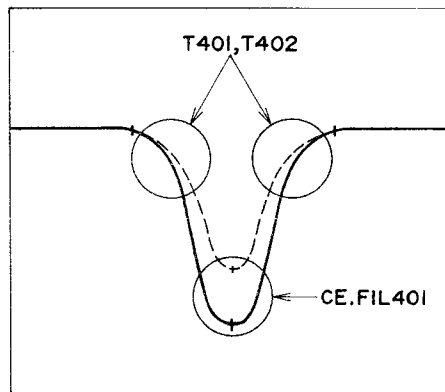

Fig. 23
- 4) Adjust AM IF Amp. P.C. Board coils T401 and T402 shown in Fig. 22 as well as the core of ceramic filter CE.FIL401 to obtain the fastest angle rise up of parts (A) and (B) of the waveform shown in Fig. 23, and also maximum amplitude at (C).
- 4) Adjust AM IF Amp. P.C. Board coils T401 and T402 shown in Fig. 28 as well as the core of ceramic filter CE.FIL401 to obtain the fastest rise up angle of parts (A) and (B) of the waveform shown in Fig. 23 and also maximum amplitude at (C).